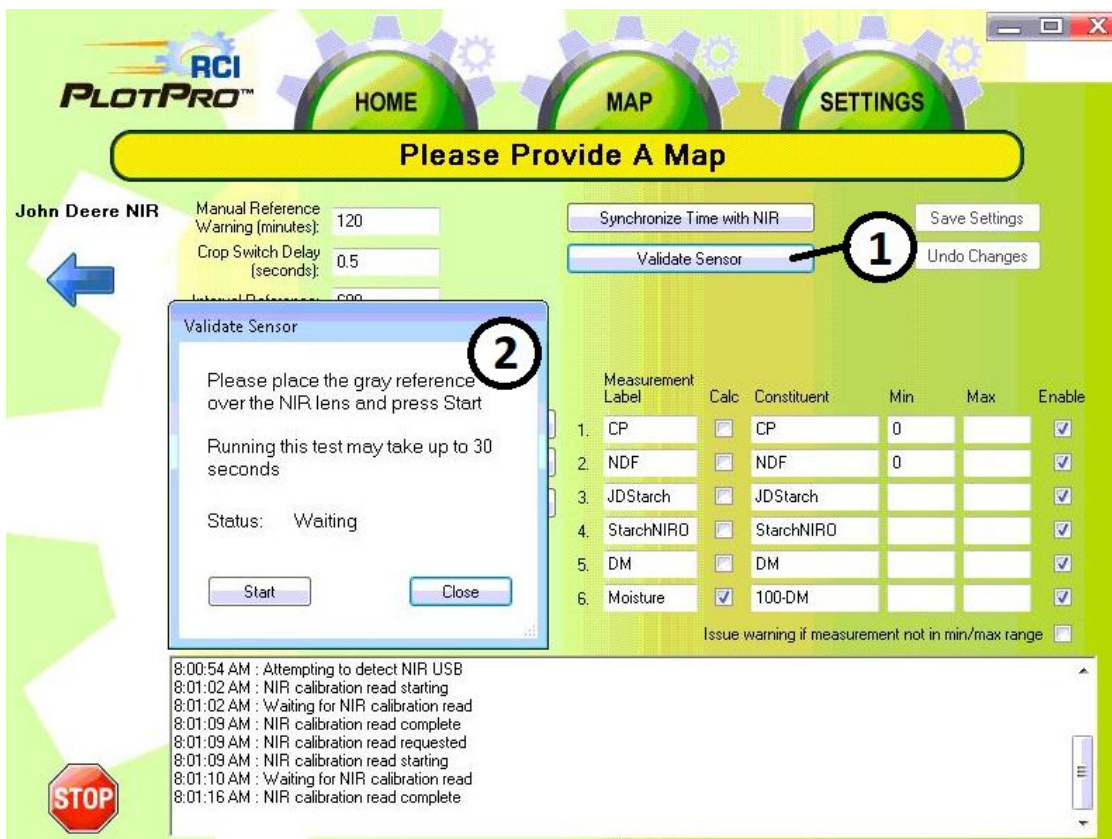

Figure 26. Validate NIR Sensor
5. Press Start. See Figure 26.